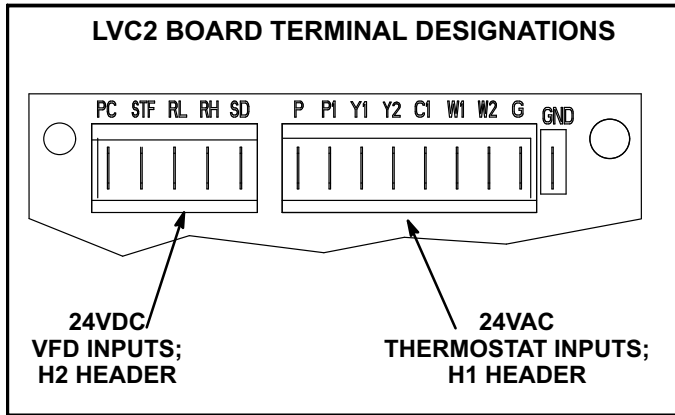

FIGURE 31
- 3- Check for 24VAC signal at the thermostat blower input (G to GND terminal). See figure 31.